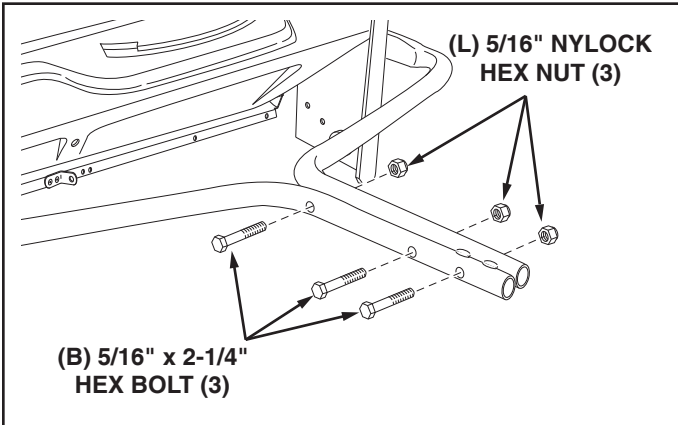

FIGURE 4
8. Fasten the hitch tubes together using three 5/16" x 2-1/4" hex bolts and 5/16" nylock hex nuts. **Do not tighten yet.** See figure 4.
- Tighten** the hex bolts assembled in figure 4 and 5.